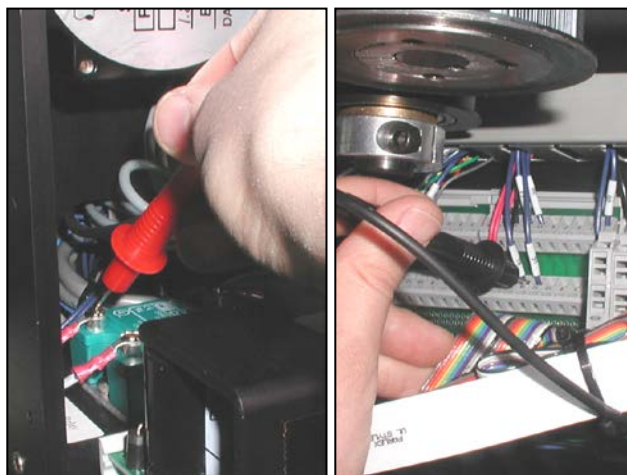

Figure 3-100. Solid State Relay Control
6. With your DVOM set to test for continuity, contact the black probe to pin 14 on the Y Breakout Module in the electrical area, and the red probe to pin 4 of the Solid State Relay as shown in (Figure 3-100). The DVOM should indicate continuity, if it does proceed to the Incoming Power section.